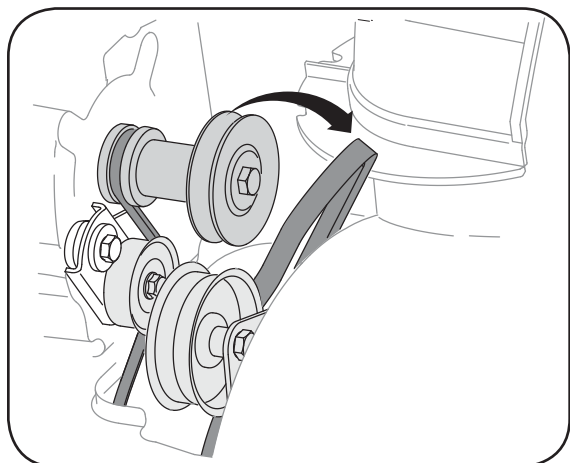

Figure 6-6
3. Roll the auger belt off the engine pulley. See Figure 6-6.